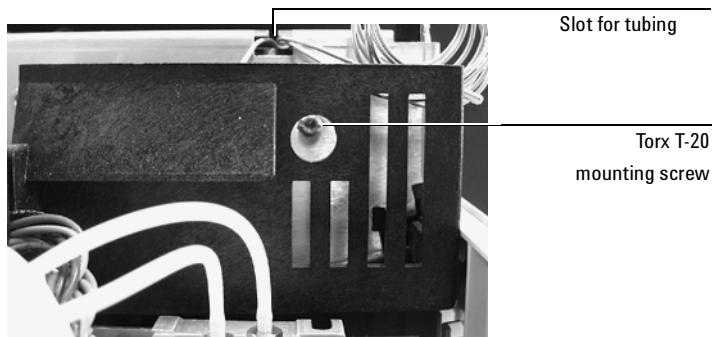
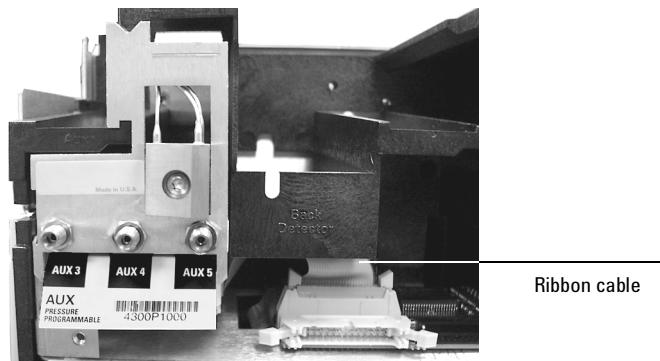
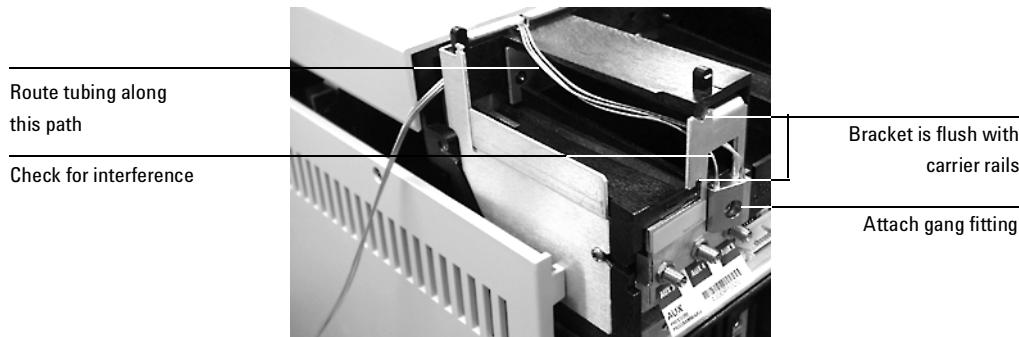

Figure 360-2 Removing the auxiliary flow manifold
Figure 360-5 Routing the ribbon cable
Figure 360-6 Manifold, after installation
3. Remove the Torx T-20 mounting screw from the front of the manifold. See Figure 360-2.
4. Disengage the tubing from the slots in the chassis so that the gang fitting on the manifold can be removed easily. See Figure 360-2.
5. If the tubing from the gang fitting bends to the left, reshape it so that it bends up and back from the block as shown in Figure 360-6.
- Be sure the left tube clears the inner edge of the bracket. See Figure 360-6.
7. Route the ribbon cable to the right side of the manifold assembly as shown in Figure 360-5. Then, slide the manifold and bracket assembly into the Aux slot until the bracket seats flush against the end of the rails. See Figure 360-6.
8. Route the gas tubing behind the manifold, over the top of the chassis, and through the slots as shown in Figure 360-2 and Figure 360-6.
10. Secure the manifold in place using the Torx T-20 mounting screw. See Figure 360-2.